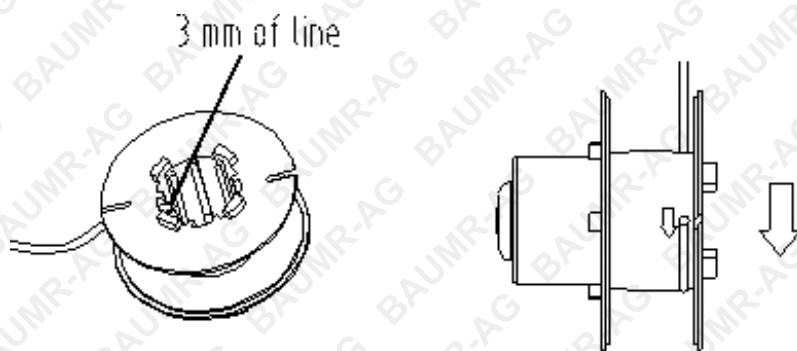

FIG. 11
- i. Insert one end of line into the hole in the spool as shown in FIG. 11, about 3 mm.
- ii. Snugly and evenly wind the line onto the spool in the direction of the arrow on the spool (FIG. 11), until the line builds up to the notches in the spool rim. Do not overfill spool. The spool holds about 6.5m of line.